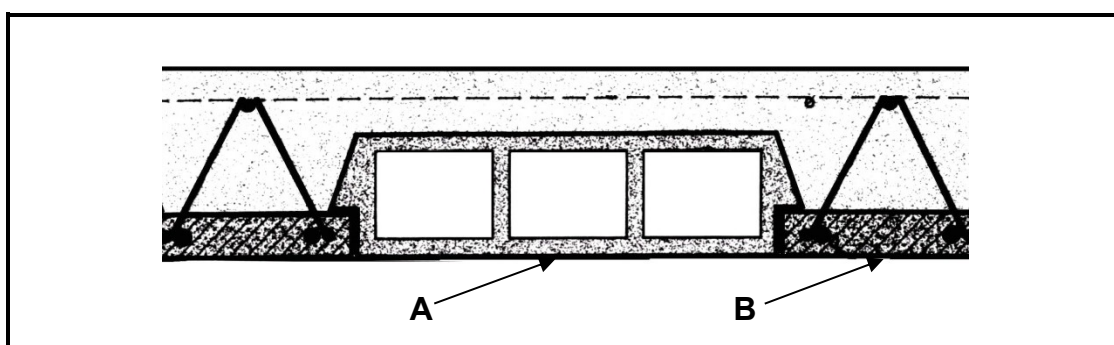

FIGURE 6.4
- 6.4 Answer the following questions in regard to the floor construction in FIGURE 6.4.